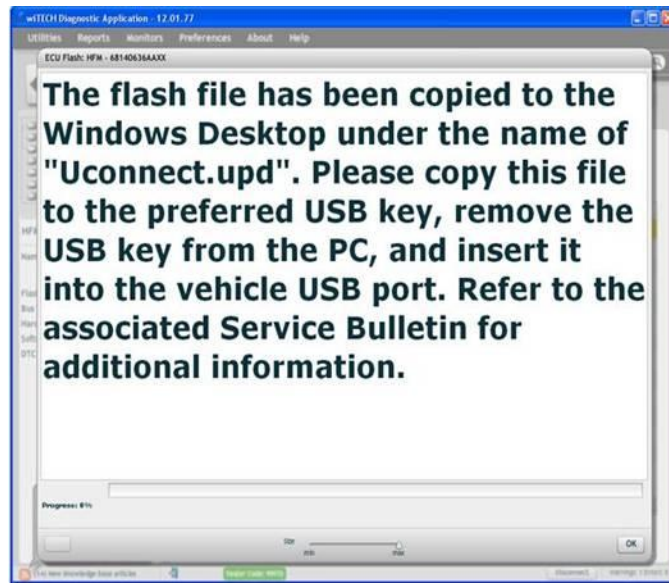

Fig. 9 Alternate Instructions If Memory Stick Not Found
9. The Alternate Instructions dialog (Fig. 9) will appear.